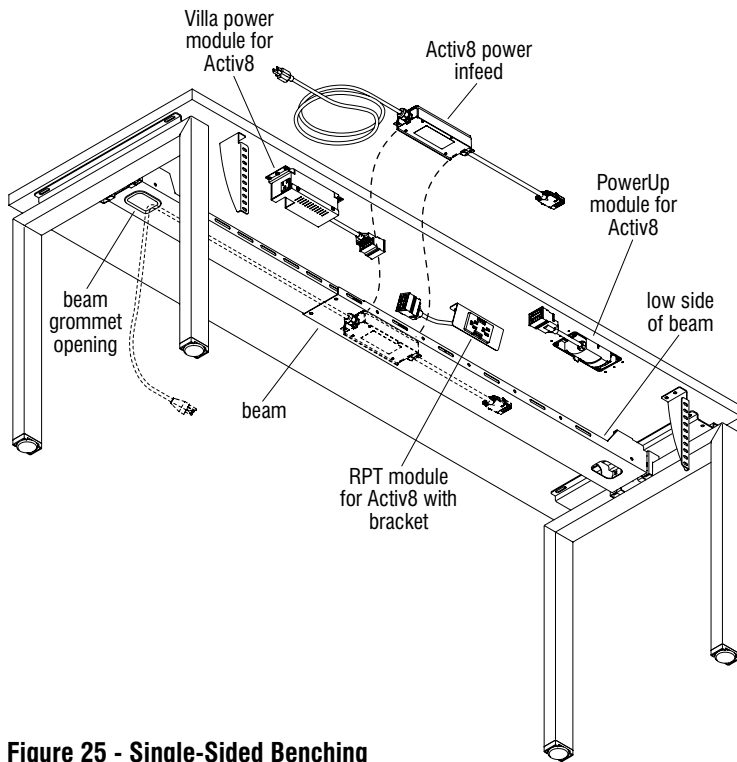
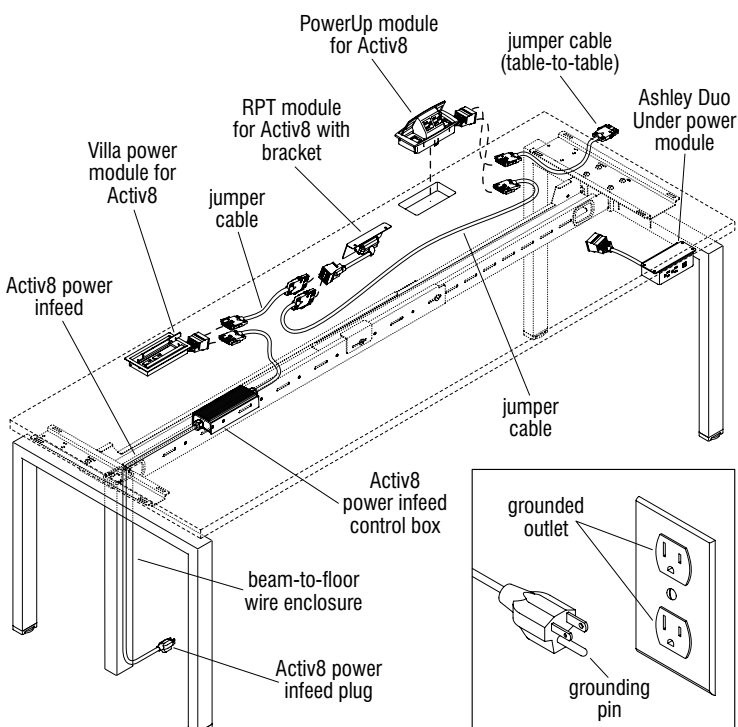

Figure 25 - Single-Sided Benching
Figure 28
4. Go now to page 19 and follow instructions for "Single-Sided Benching or Single Beam Wood Leg Unit with Activ8 Power Infeed" (Figures 25 & 26), then reference "Single-Sided Benching or Single Beam Wood Leg Unit, Connections with Source Power for Activ8" on page 21 (Figure 28).
6. Go now to page 19 and follow instructions for "Single-Sided Benching or Single Beam Wood Leg Unit with Activ8 Power Infeed" (Figures 25 & 26), then reference "Single-Sided Benching or Single Beam Wood Leg Unit, Connections with Source Power for Activ8" on page 21 (Figure 28)
2. Take the Activ8 power infeed unit in hand and route the power cord plug-end into the rear of the beam at the low side, and then send the plug-end down through the beam grommet opening, at the location close to the power source (Figures 25 & 26). Set the power infeed box into the beam as illustrated and position it so the connector end can reach the connector end of either the RPT module for Activ8 (page 16, Figures 19 & 20), Villa power module for Activ8 (page 17, Figures 21 & 22) or PowerUp for Activ8 (page 18, Figures 23 & 24).
2. Jumper cables come in various sizes and connect Activ8 components between PowerUp, Villa & RPT modules and between worksurfaces. Jumper cables are keyed and can only be plugged in one way (Figure 28).